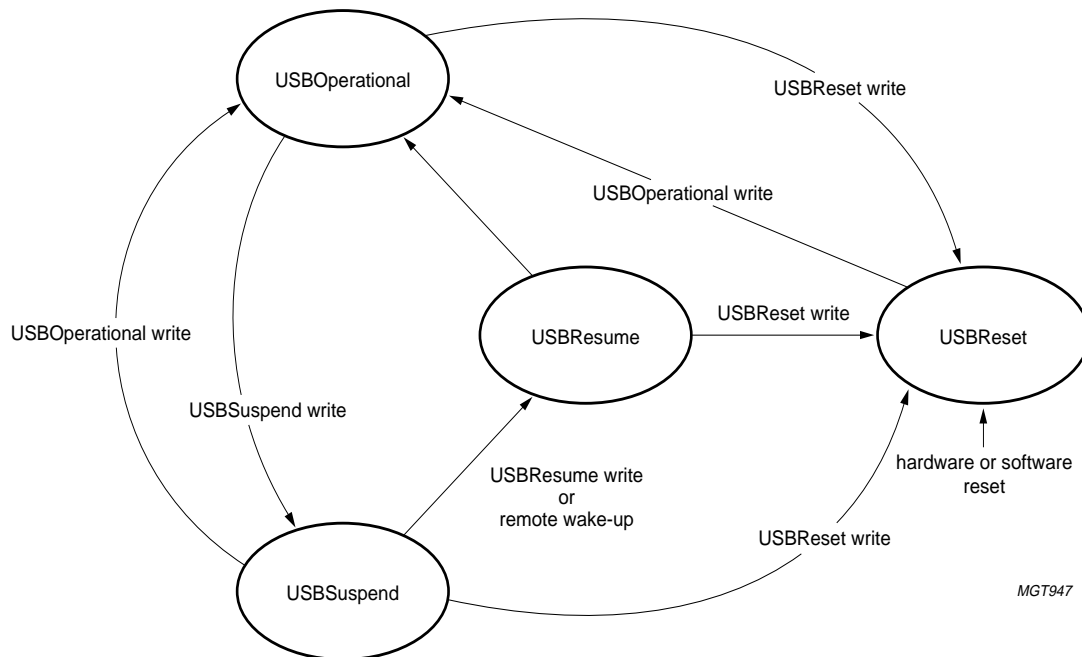

Fig 23. ISP1161A1 HC USB states.
The Host Controller Driver (HCD) can perform only the USB state transitions shown in **Figure 23**.
**Remark:** The Software Reset in **Figure 23** is not caused by the HcSoftwareReset command. It is caused by the HostControllerReset field of the HcCommandStatus register (02H to read, 82H to write).